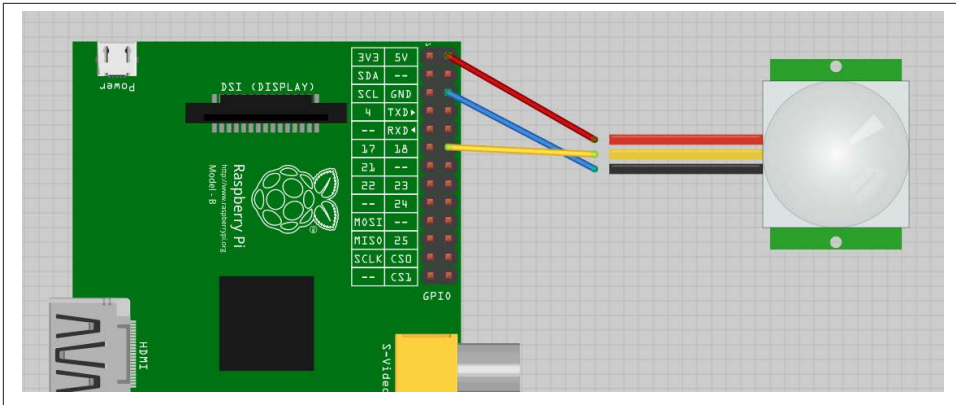

Figure 11-13. Wiring a PIR motion detector
**Figure 11-13** shows how the sensor module is wired. This module expects a power supply of 5V and has an output of 3.3V, making it ideal for use with a Raspberry Pi.